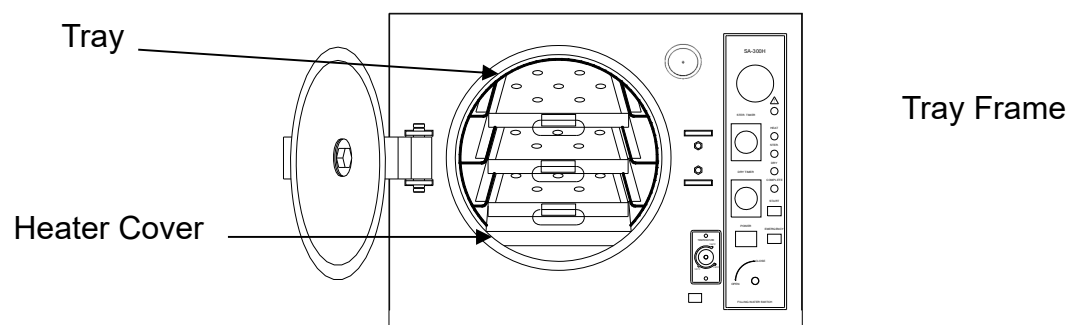

Figure 8 – Tray
- E. Install the tray as Figure 8 – Tray. (optional accessory)